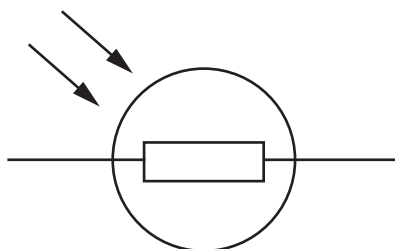

Figure 6
The electronic component shown in Figure 6 is used in the jewellery box.
- (a) (i) Name the electronic component shown in Figure 6.